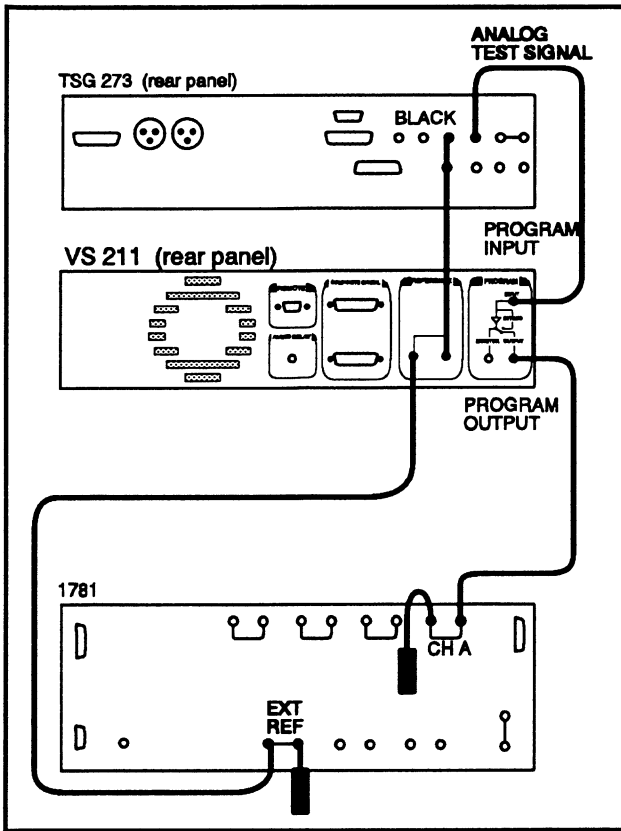

Fig. 4-7. Setup to check the input gain range.
- Connect the test equipment as shown in Fig. 4-7.